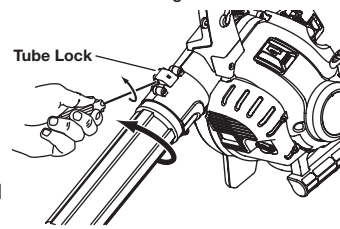

Fig. 3
- Insert a flathead screwdriver into the tube lock. Twist the screwdriver counterclockwise 1/4 turn and hold (Fig. 3).
- Grasp the upper blower tube and twist it counterclockwise (Fig. 3).